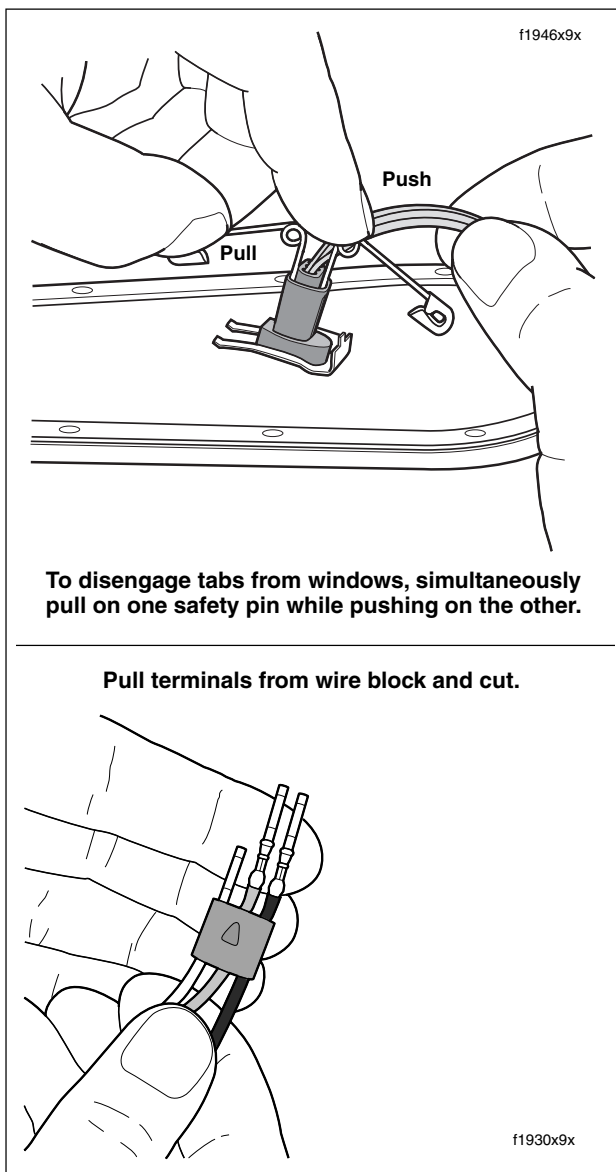

Figure 9-21. Remove Wire Block and Cut Terminals
- Obtain two safety pins. On each side of connector body, insert a safety pin between body and wire block until end of each pin appears in window. To disengage tabs from windows, gently pull on one safety pin while pushing on the other. See upper frame of Figure 9-21. With tabs released, gently tug on wires to release wire block from connector body.
- Pull the wire socket terminals out of the wire block. See lower frame of Figure 9-21. Cut off the socket terminals and back the wires out of the wire block.